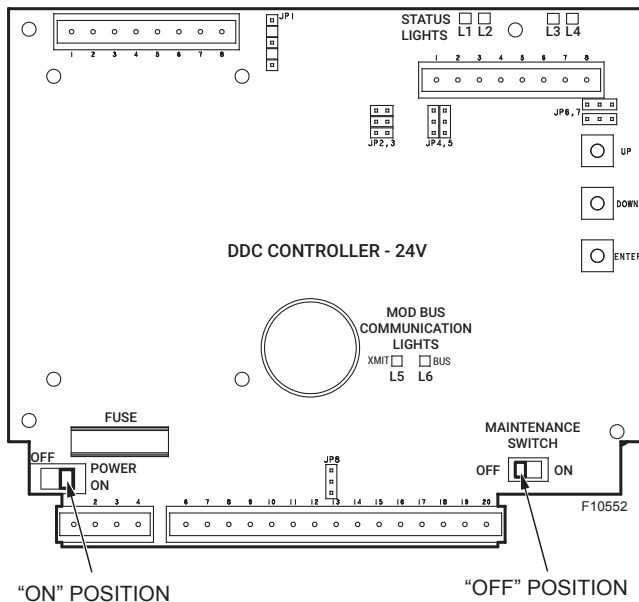

Figure 4. DDC Circuit Board
2. The DDC power switch is in the ON position. See **Figure 4**.
3. The maintenance switch is in the OFF position. See **Figure 4**.